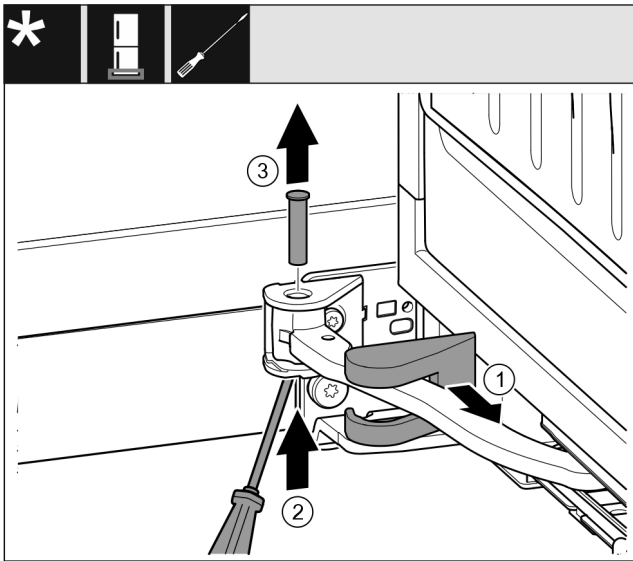

Fig. 14
- ▶ Pull off the swap bearing block cover Fig. 14 (1) and slide it along the joint.
- ▶ Use the screwdriver to lift the pin Fig. 14 (2) from the bottom.
- ▶ Pull the pin Fig. 14 (3) out from the top.